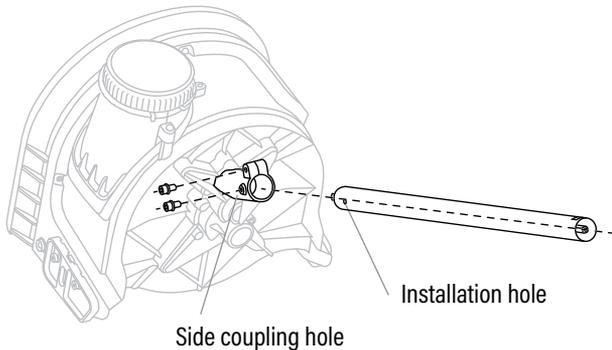

Fig. 2
2. Align the round hole on the attachment shaft with the side coupling hole on the snow shovel attachment. (Fig. 2)